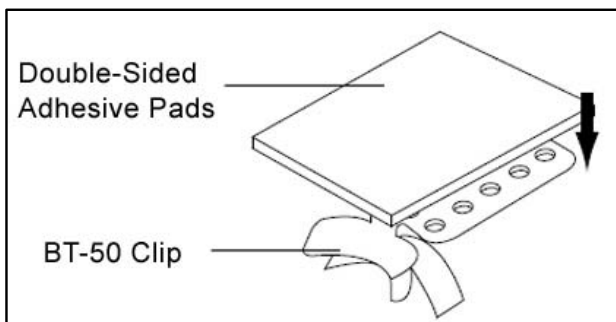

Figure 7.
3. Apply one double-sided adhesive pad to the back of BT-50 roof clip. See Figure 7.